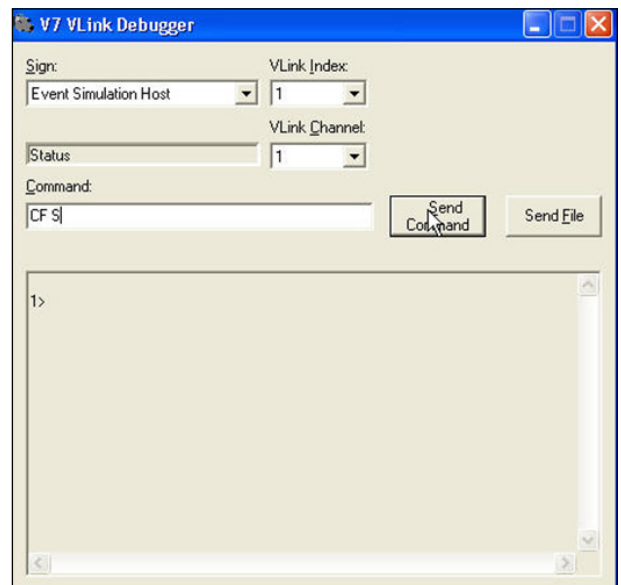

Figure 44: Saving Configuration
- 7. Save the configuration on the VIP-4400 by entering **CF S** in the **V7 VLink Debugger Command** box and create a backup configuration if not done previously. Refer to **Figure 44**.